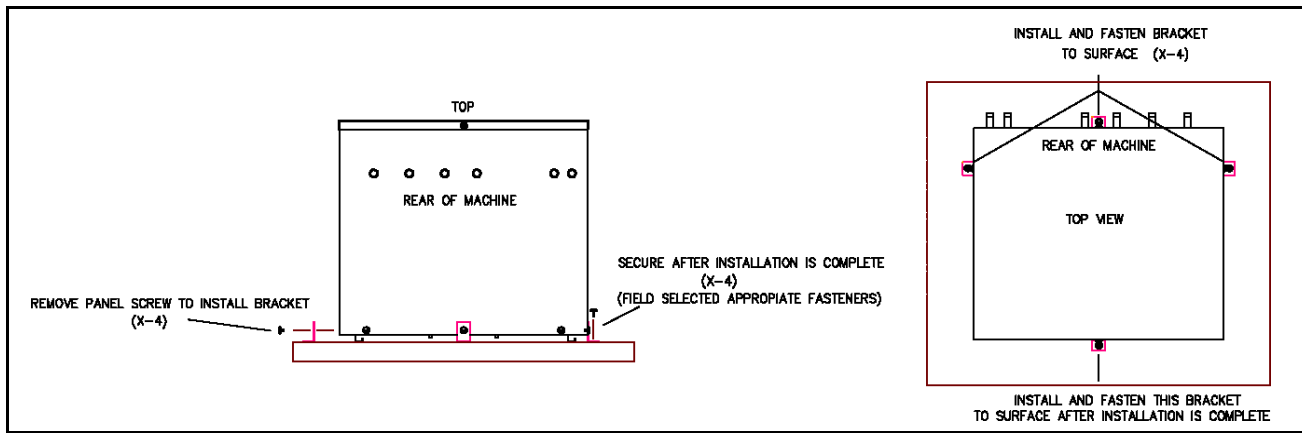

Figure 3. Compressor Unit Bracket Installation
- EarthLinked® compressor units may be located inside or outside. If outside, place compressor unit on a standard HVAC outdoor unit pad. If inside, place it on a level, hard surface. If the compressor unit is to be fastened down, see Figure 3 for bracket installation.